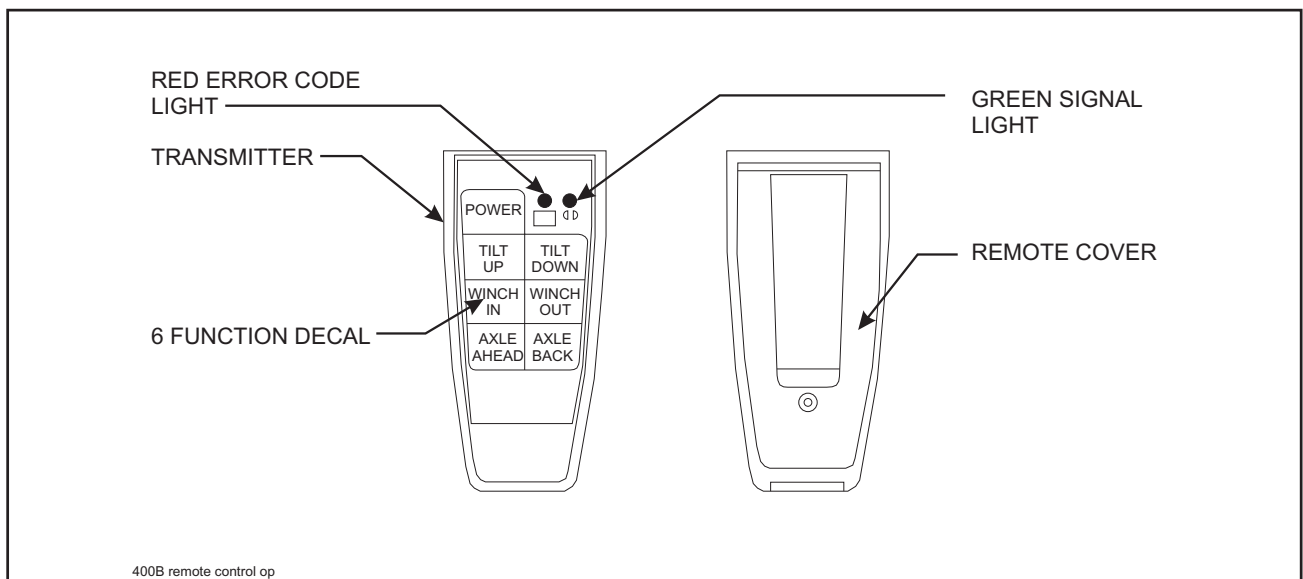

Figure 3-13 Remote Control (Option)
**3-21.1** A wireless six function radio remote control is available (See Figure 3-13).